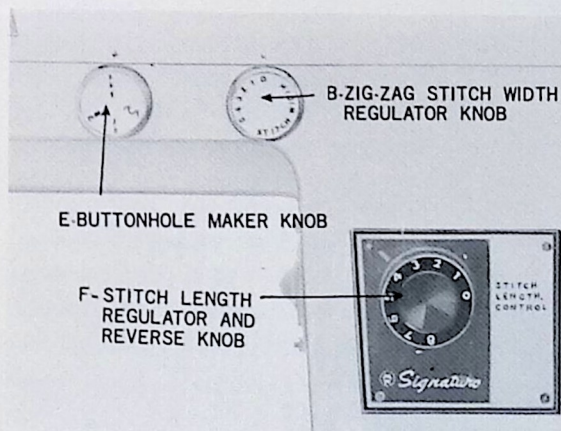

Fig. 10. Stitch Regulator
See Fig. 10
Set buttonhole maker knob (E) Fig. 10 at position shown in Fig. 10.
Turn the stitch length regulator knob F Figure 10 to indicate the desired length of stitch. To tack or reinforce a seam, push in on the regulator knob and release quickly, twice only, while the machine is running at about normal sewing speed.